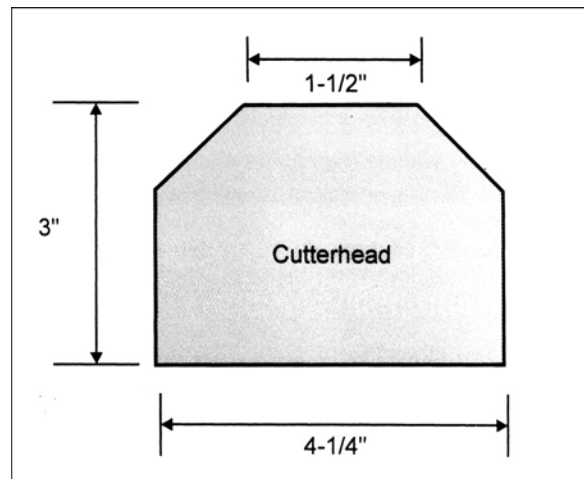

Figure 10
- Mark each block as shown in Figures 10 and 11.